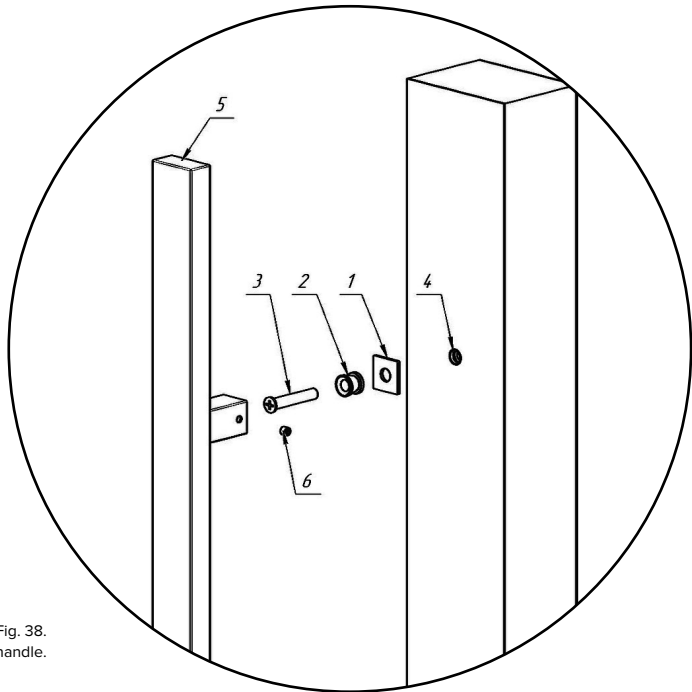

Fig. 38.
1. The set consisting of a screw (No. 3, Fig. 38), a square plastic cover plate (No. 1, Fig. 38) and a bushing (No. 2, Fig. 38) for each fastening unit must be screwed into the rivet (No. 4, Fig. 38) (pre-mounted in the leaf) and the screw (No. 3, Fig. 38) must be tightened. The set consisting of a screw (No. 3, Fig. 38), a square plastic cover plate (No. 1, Fig. 38) and a bushing (No. 2, Fig. 38) for each fastening unit must be screwed into the handle (No. 4, Fig. 38) by driving the screw (No. 3, Fig. 38) through the mounting hole in the door leaf;
3. Place the handle (No. 5, Fig. 38) on the bushings (No. 2, Fig. 38), and then use the screws (No. 6, Fig. 38) to secure the handle.